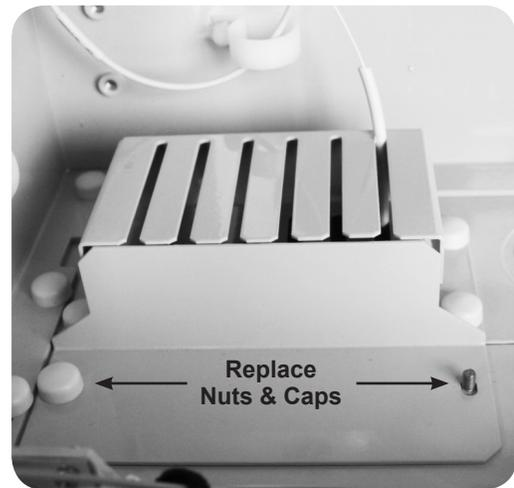

Figure 25
10. Using a standard 216 style tool, or similar, replace the two nuts that secure the MDU drop access plate to the cabinet body and cover with caps. **(Figure 25)**